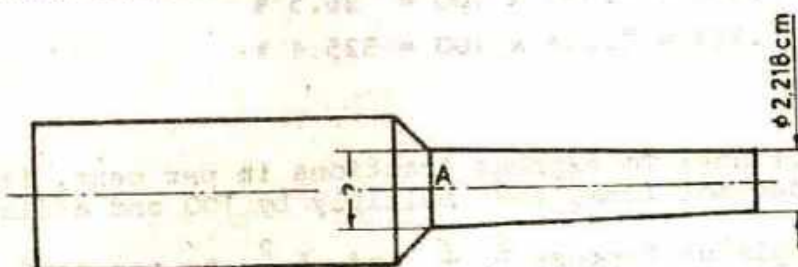

Fig. 3
- f) Find the diameter at A of the taper drill shank in Fig. 3, if the difference between the small diameter and the diameter at A is 0.032 cm.